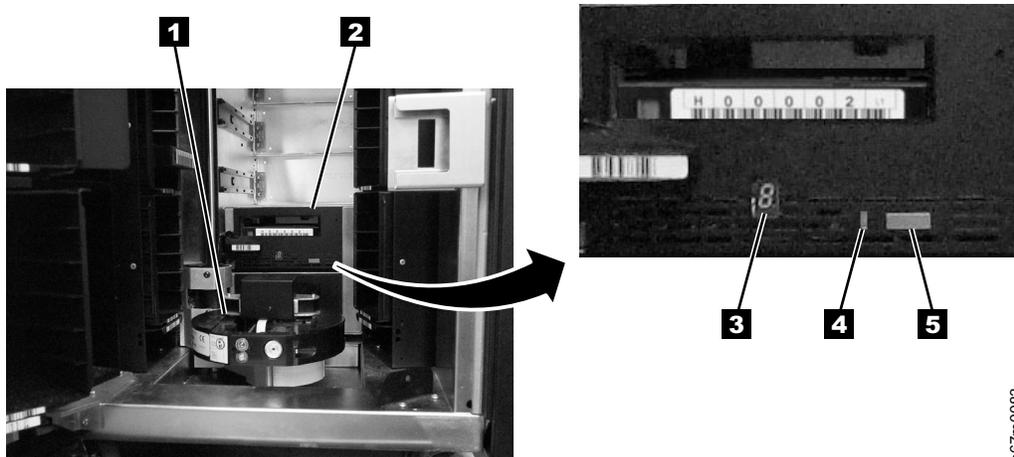

Figure B-1. Resetting the Tape Drive
3. Locate the drive that contains the stuck tape cartridge. If the picker ( **1** in Figure B-1) is in front of the drive **2** , gently lift and hold the picker out of the way.